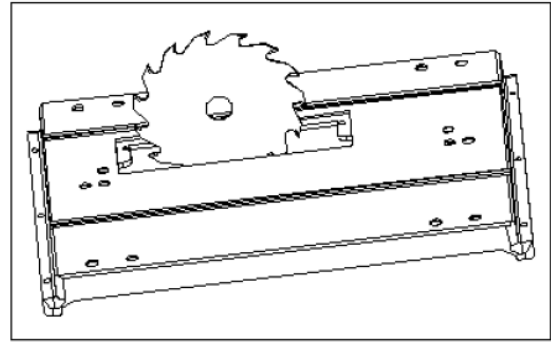

Fig.5
- 3) Reinstall the various connection elements (Fig. 5).